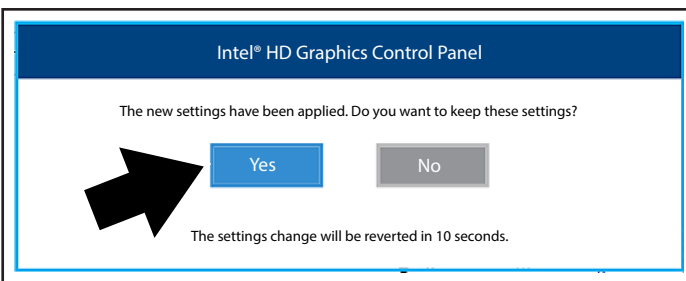

Figure 13
12. Select "Yes", to keep the settings (Figure 13).